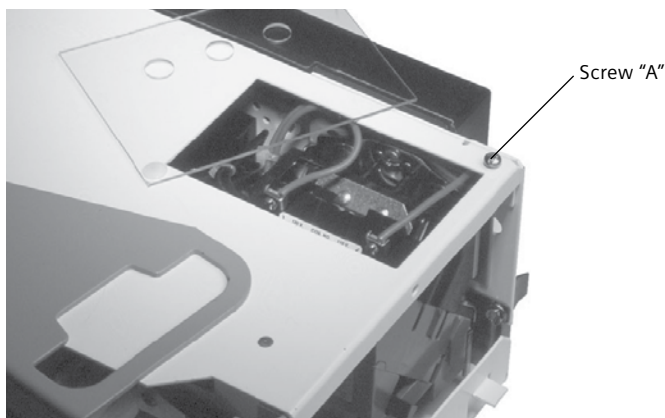

Figure 56
3. Rotate the cover as shown in Figure 56 around the pivot point.